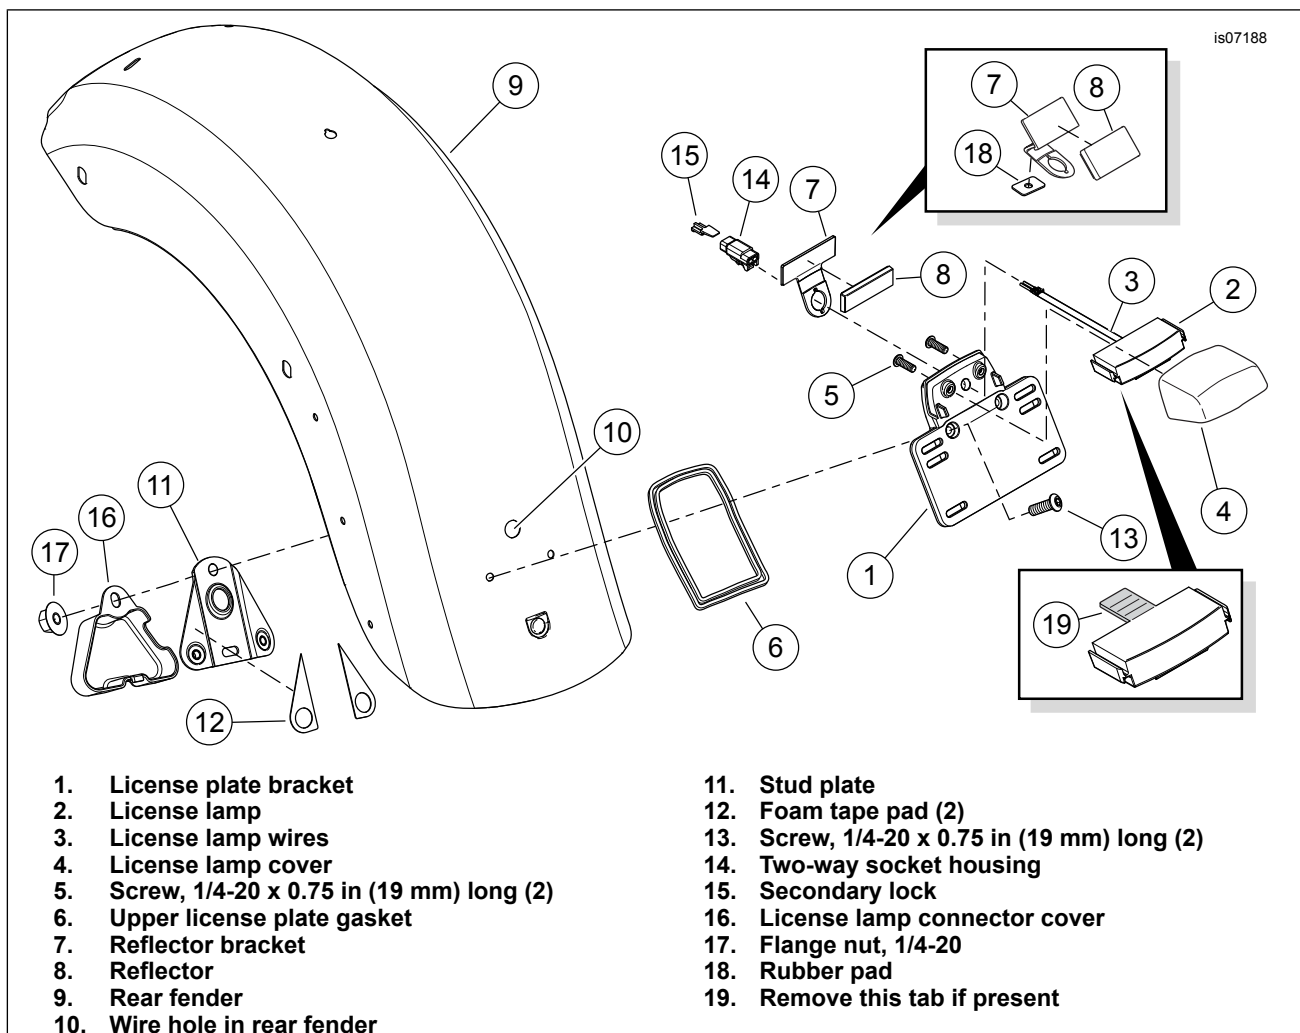

Figure 4. License-Plate Lamp and Bracket Installation
Some license lamps have a tab (see Figure 4 inset, Item 19) that will prevent installation. Remove the tab before proceeding.
1. See Figure 4. Assemble the license lamp (2) and cover (4) to the license plate bracket (1). Tighten the screws (5) to 6.4–7.8 N·m (57–69 in-lbs).
2. Get the stud plate (11) and two foam tape pads (12) from the kit. Remove the liner from the adhesive backing on one side of one pad. Carefully position the pad to a flange of the stud plate, on the side opposite the nuts. Press firmly into place. Repeat with the second pad on the remaining flange. Remove the liner from the exposed side of the pads.
HDI models using reflector bracket 60921-09 (see Figure 4): Remove the liner from the adhesive backing of the 30 x 19 x 1.6 mm (x in) rubber pad (18). Position the pad to the back of the reflector bracket (7), just above the hole as shown. Press firmly into place.
3. Get the correct reflector (8) and bracket (7) from the kit. Remove the liner from the adhesive backing of the reflector. Install to the bracket as shown.
4. While holding the gasket (6) in place, feed the lamp wires (3) through the license bracket (1), reflector bracket (7), and the hole (10) in the fender (9).
5. Hold the stud plate (11) in place on the underside of the fender. Secure the license plate bracket (1) to the stud plate with screws (13). Tighten the screws securely.
6. Insert the license lamp wires into the two-way socket housing (14) per the service manual. Secure with the secondary lock (15). Plug the two-way pin housing on the rear harness into the license lamp socket [45B].
7. Install the license lamp connector cover (16). Secure with a flange nut (17). Tighten the nut to 3.4–5.1 N·m (30–45 in-lbs).